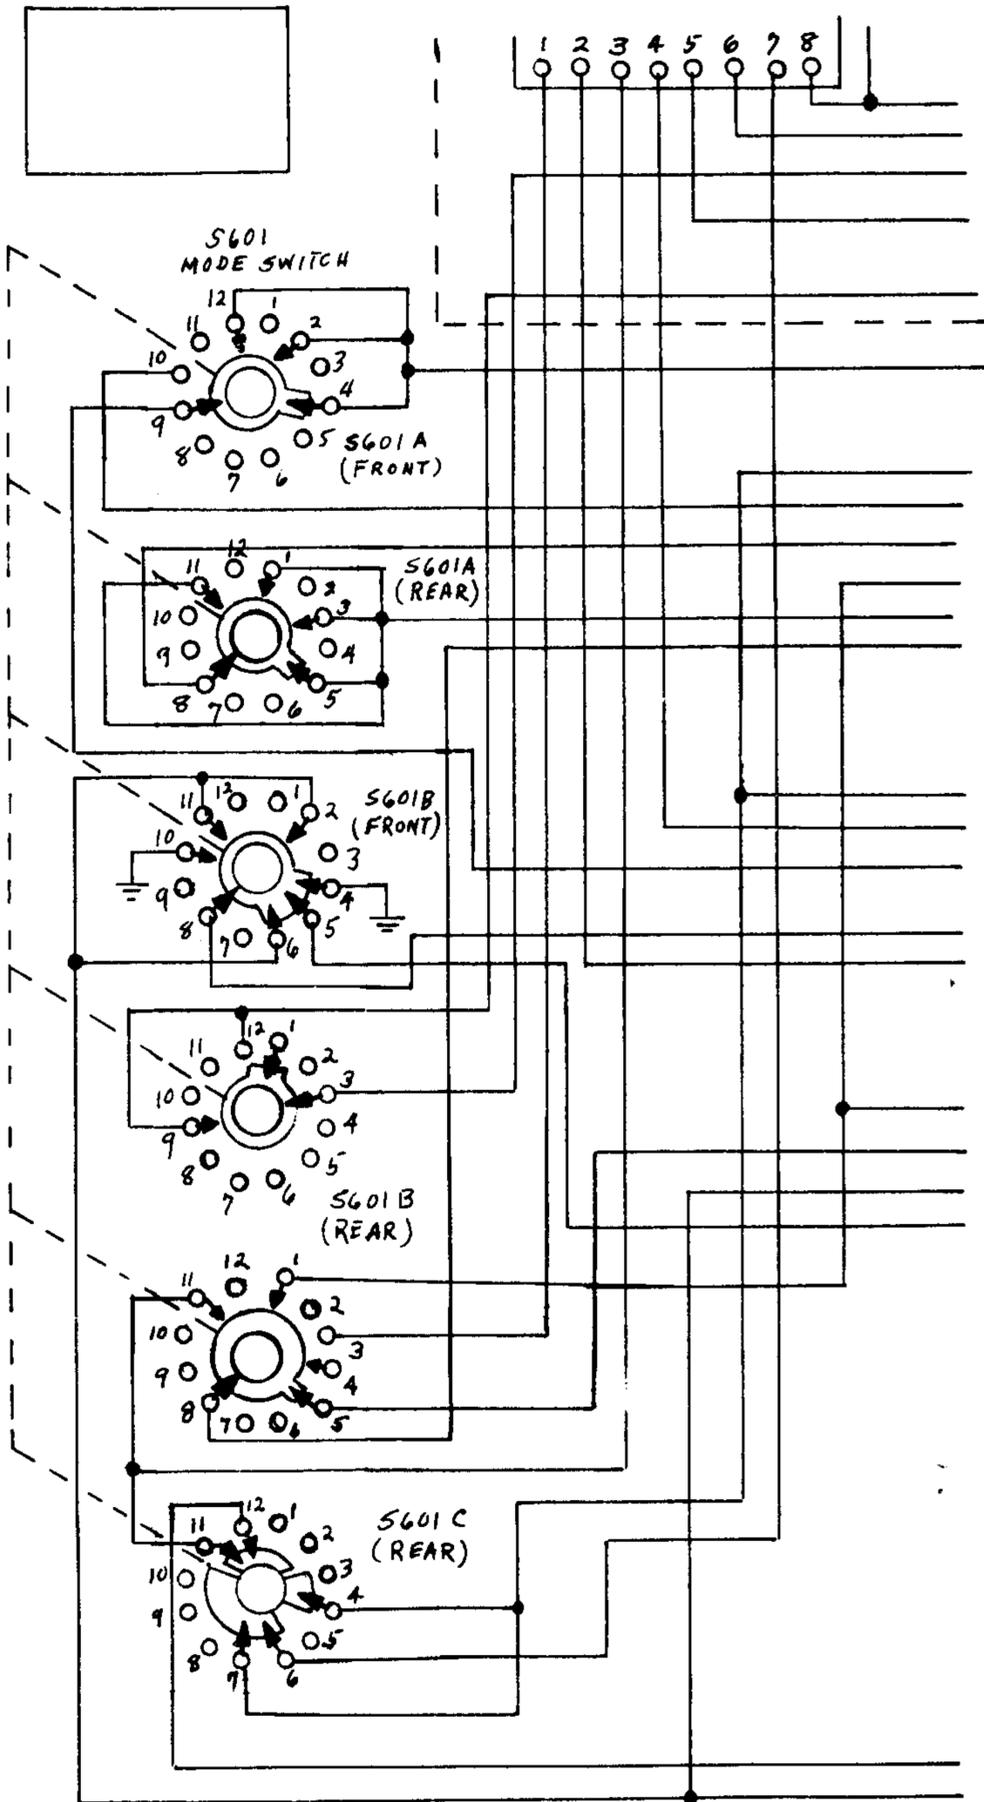

Figure 1
- a. Neatly cut out figure 1 (attached to this change notice) and appropriately affix it to figure 6-9 in the manual.